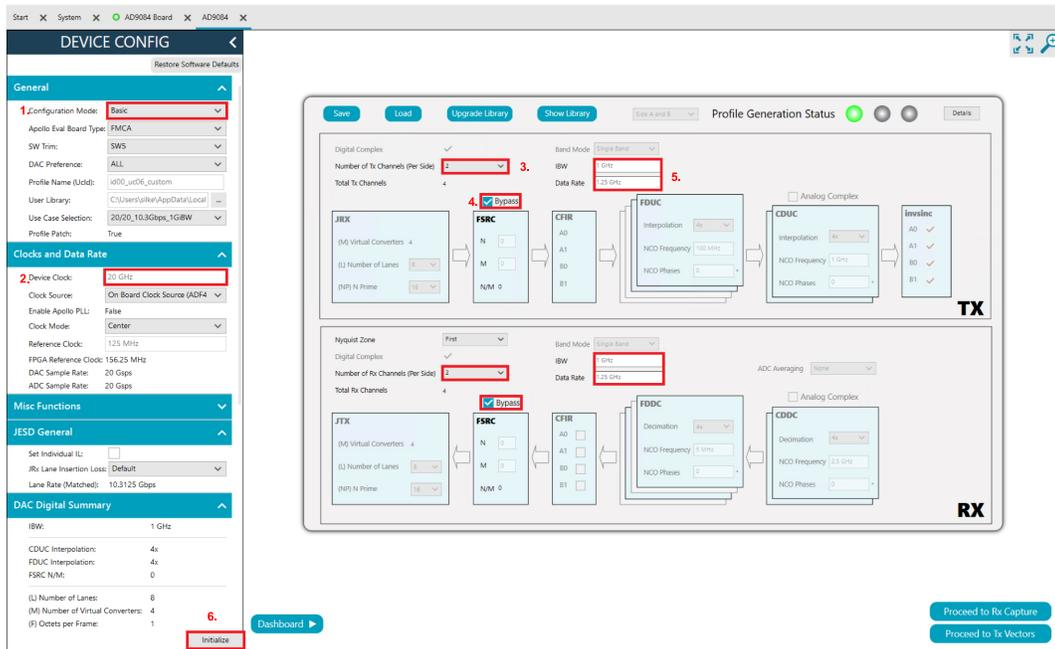
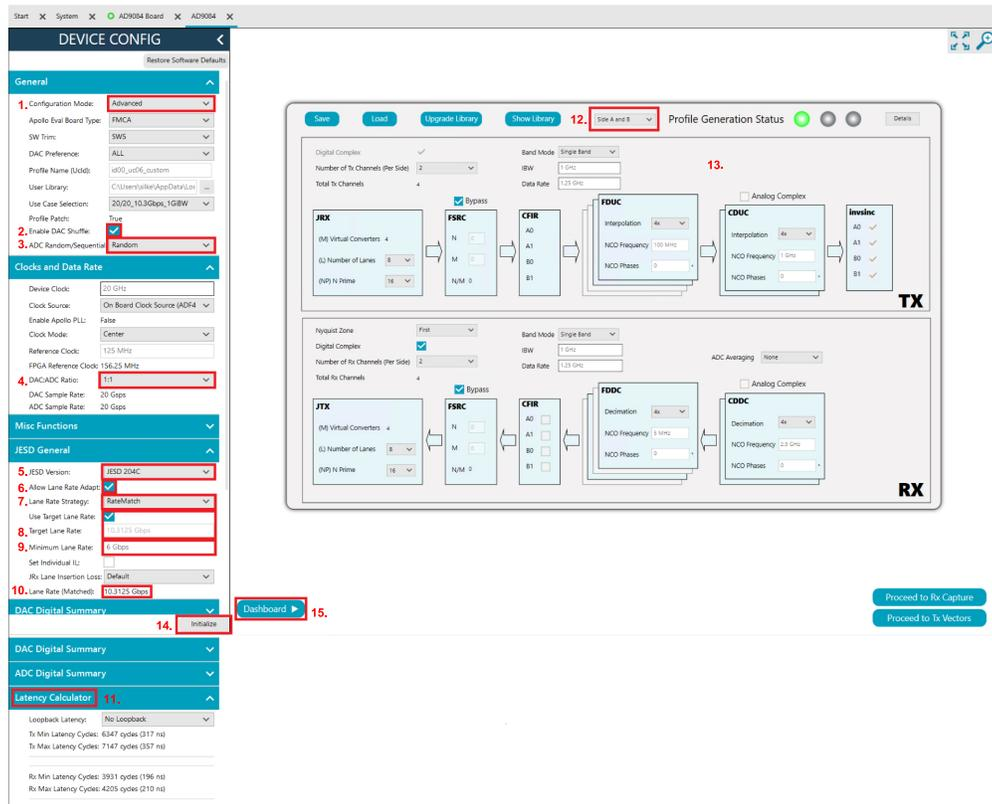

Figure 22. Basic Configuration Mode
Figure 23. Advanced Configuration Mode
An Apollo MxFE device profile contains the parameters and configuration details of a use case. The **ACE Software** is used to generate the device profile in three available configuration modes: quick, basic, and advanced (see Figure 21, Figure 22, and Figure 23). The device profile can be saved, shared, and loaded back into the **ACE Software** (`<filename>.json` or `<filename>.blueprint`) or used by the API (`<filename>.h`). Note that the AD9088 is not supported in ACE Apollo plugin.
- d. The **Resolution** is the same as the **Np (N')** parameter for the use case running. **Np (N')** is shown in the **DEVICE CONFIG** section and block diagram in Figure 21, Figure 22, and Figure 23.